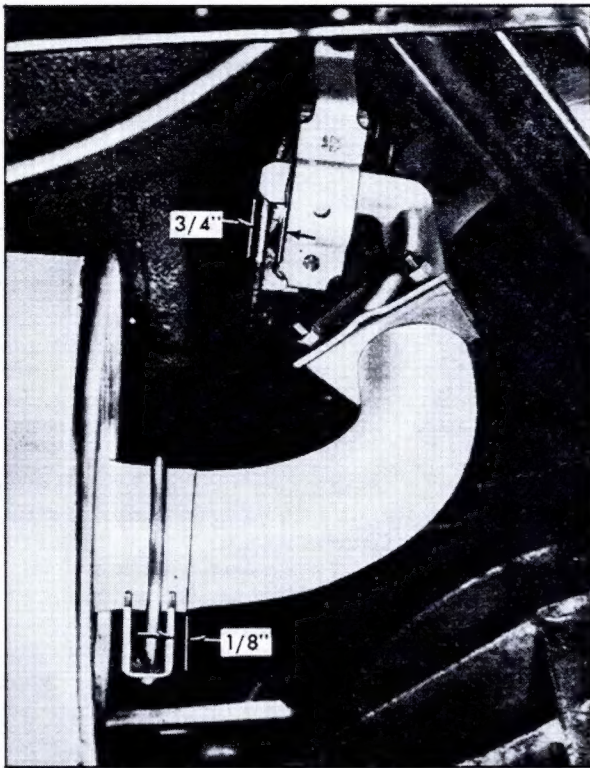

Fig. 8-5 Muffler-to-Resonator Pipe Clamp and Hanger
3. Install muffler-to-resonator pipe clamp. Position clamp with saddle of clamp 1/2 inch in from edge of pipe and toward left side of car, Fig. 8-5. Tighten nuts to 30 foot-pounds.
4. Engage resonator outlet hanger blade and muffler-to-resonator pipe hanger blade with slots in hangers so that blades stick out from hangers 3/4 inch, Fig. 8-5 and 8-6.
3. Insert pipe into muffler outlet approximately 1-1/2 inches and secure with clamp. Position clamp with saddle of clamp 1/8 inch in from edge of pipe and toward left side of car, Fig. 8-5. Tighten nuts to 35 foot-pounds.
4. Position blade of hanger so that blade sticks out 3/4 inch from slot, Fig. 8-5, and tighten blade to pipe. Tighten nuts to 15 foot-pounds.
6. Position clamp between muffler outlet pipe and muffler-to-resonator pipe so there is approximately 1/8 inch between edge of muffler outlet pipe and saddle of clamp, Fig. 8-5. There should be approximately 1-1/2 inch overlap of outlet pipe with muffler-to-resonator pipe.